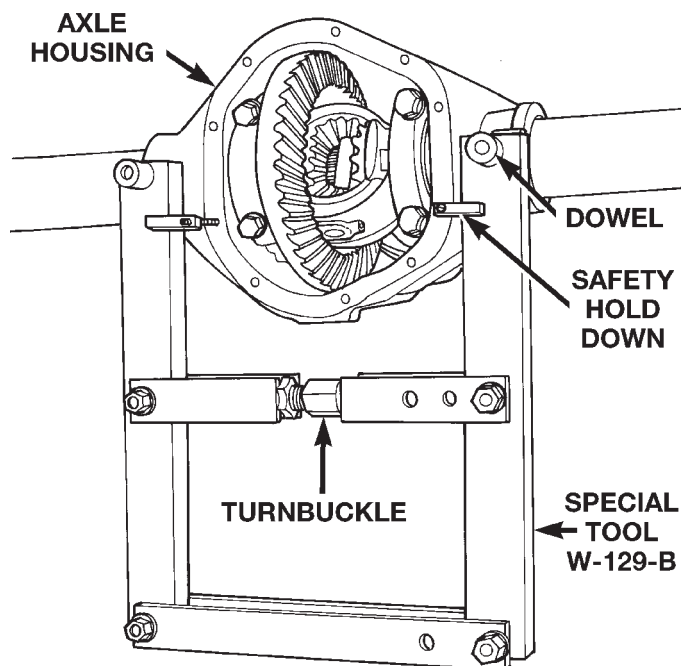

Fig. 31 Install Axle Housing Spreader
- (6) Loosen the differential bearing cap bolts.
- (7) Position Spreader W-129-B, utilizing some items from Adapter Kit 6987, with the tool dowel pins seated in the locating holes (Fig. 31). Install the hold-down clamps and tighten the tool turnbuckle finger-tight.